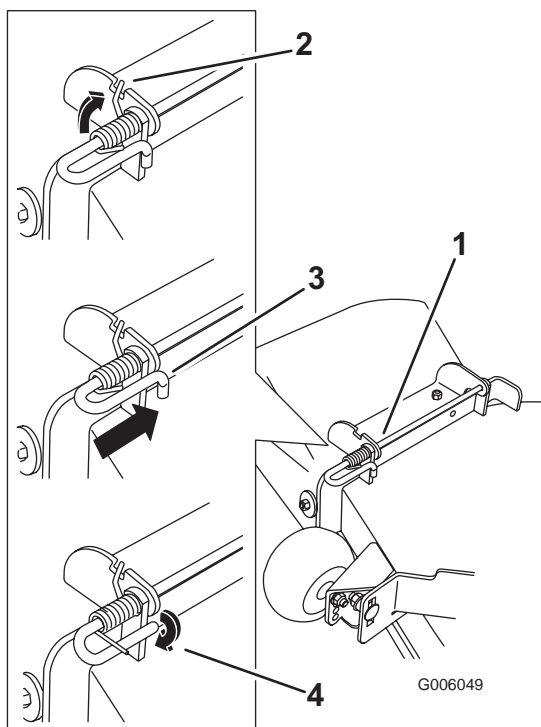

Figure 14
4. Lift the long end of the spring and place it into the notch on the deflector assembly bracket Figure 14.
5. Secure the rod and spring assembly by twisting it so the short end of the rod can be placed behind the front bracket welded to the deck (Figure 14).